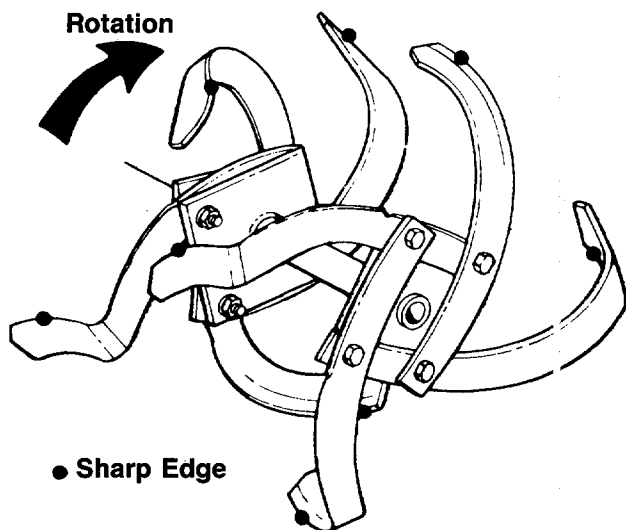
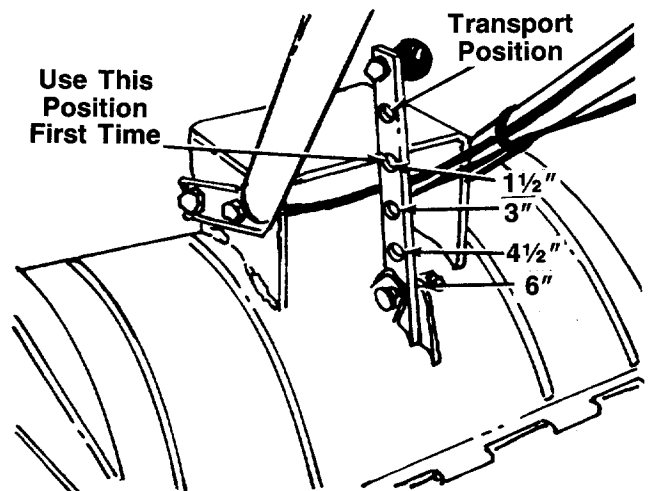
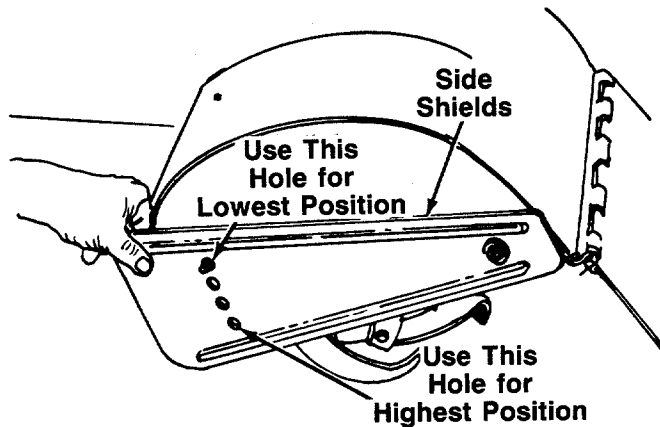

FIGURE 13.
FIGURE 14.
FIGURE 15.
1. Before operating tiller for the first time or if tines have been removed and reassembled for any reason, check to be certain the tines are assembled correctly. **The sharp edge of the tines must enter the soil first as shown in figure 13.** (Figure 14 illustrates the left hand tines, viewed from the left hand side of the tiller. Right hand tines rotate in the same direction as the left hand tines.)
When operating the tiller for the first time, use the depth bar setting that gives 1½ inches of tilling depth (second hole from the top). Refer to figure 14. Use slow speed only.
Tilling depth is controlled by the depth bar which can be adjusted to five different settings. See figure 14. Adjust the side shields as shown in figure 15, as you adjust the depth bar. Be certain spark plug wire is disconnected and grounded against the engine.
1. When using the tiller for the first time, use the second adjustment hole from the top (1½" of tilling depth). See figure 14.
To adjust the depth bar, remove the clevis pin and hair-pin cotter. See figure 14. Move the depth bar to the desired setting.
To adjust the side shields, remove the hex nut and belleville washer from the front and loosen the rear nut. See figure 15. Pivot the side shield to the desired position. Replace hex nut and belleville washer. Tighten securely.